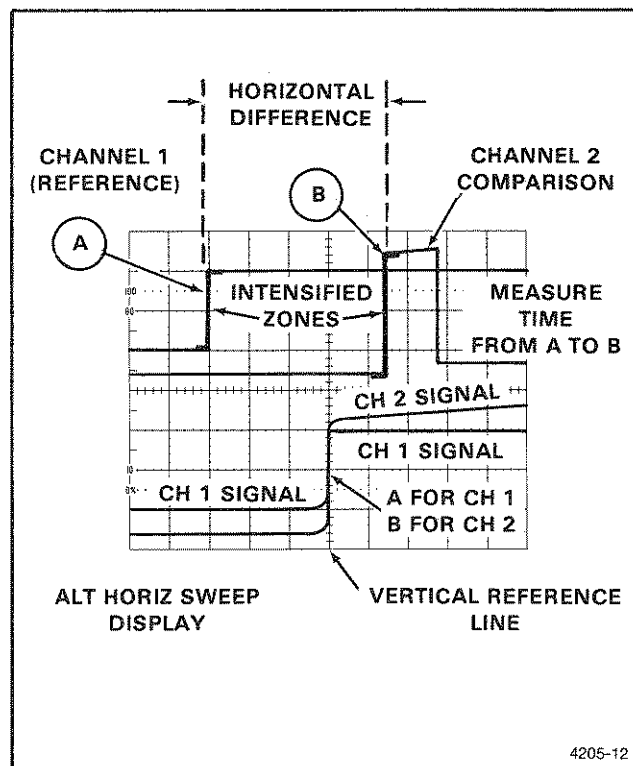

Fig. 4-8. Time difference between points on two time-related signals in nontriggered mode.
10. Adjust the B DELAY TIME POSITION control to move the reference zone to the reference signal on the CH 1 A trace (see Figure 4-8).
11. Adjust the Δ TIME POSITION control to move the comparison zone to the comparison signal on the CH 2 A trace (see Figure 4-8).